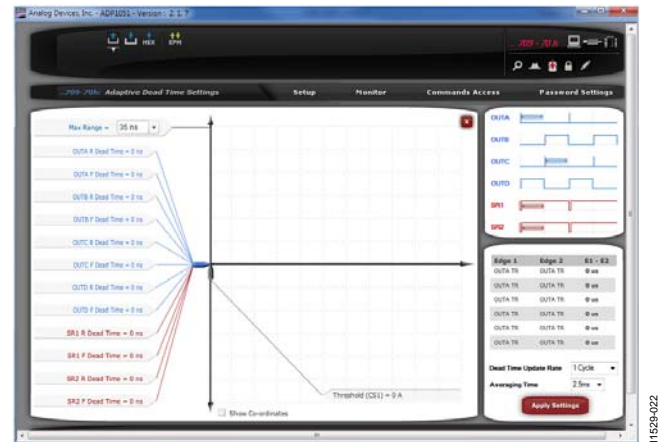

Figure 22. Adaptive Dead Time Compensation Settings Window
- Program the adaptive dead time compensation function as shown in Figure 22 to improve the efficiency at light load condition.